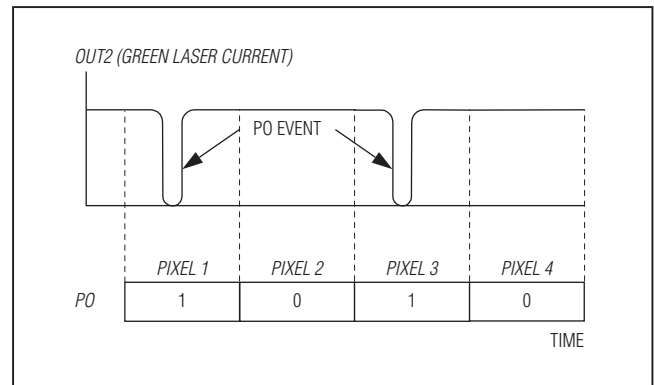

Figure 12. Periodic Off (PO) Example
The periodic off (PO) generator quickly switches off *OUTPUT2*. The PO event is placed within a pixel if PO is set high during a pixel as shown in Figure 12.